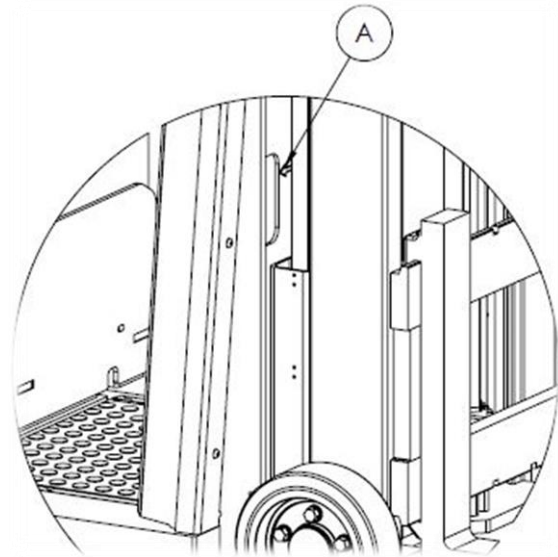

Fig 1.1
The hydraulic oil tank is located in the front section of the chassi, behind the lift mast (see fig. 1.1). On the front panel of the chassi is an inspection hole (A) to check the level without having to open the hydraulic compartment.